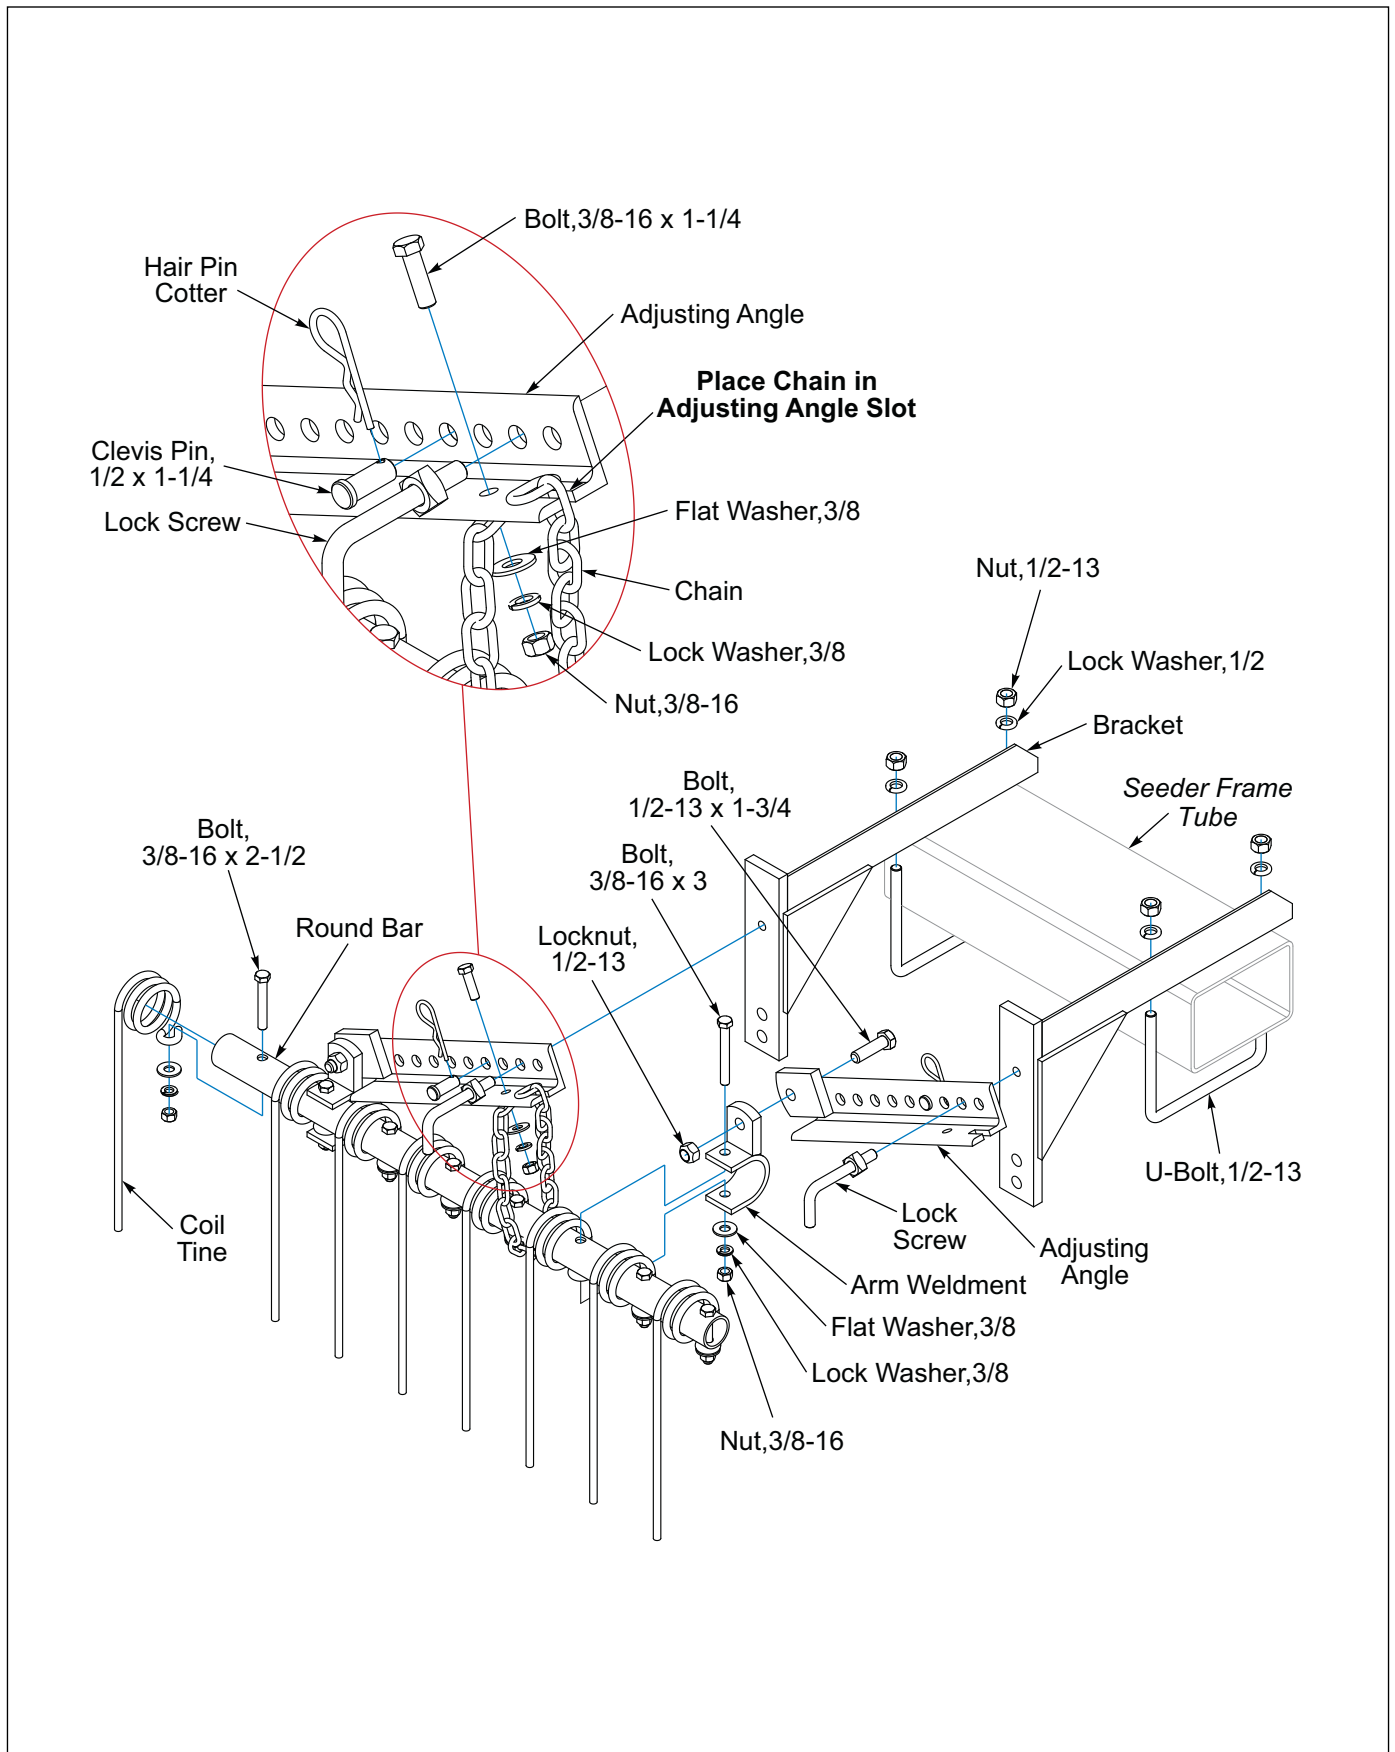

Figure 2-33: Coil Tine Setup
1. Slide the Coil Tines onto the Round Bar so that the straight leg is frontward. **See Figure 2-33.**